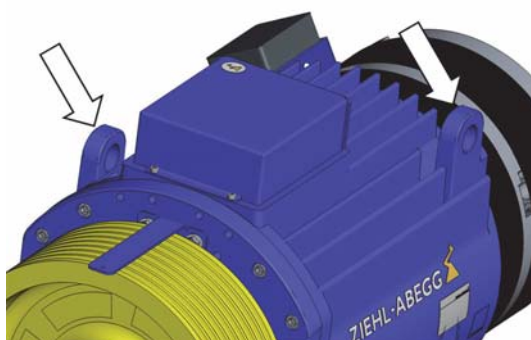

Figure 3-3-2-01 - Position of attachment points
- ▷ Only at the designated attachment points (see Figure 3-3-2-01).